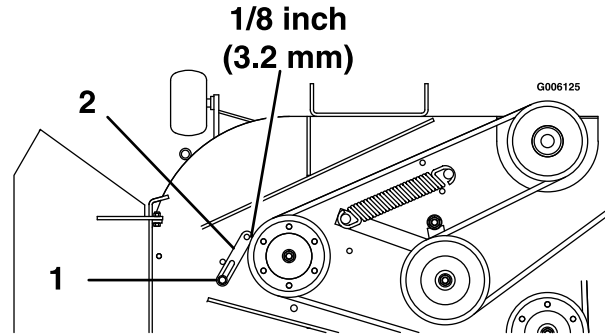

Figure 18
- be 1/8 inch (3.2 mm) away from the belt, with bolt-end of guide near end of slot (Figure 18).